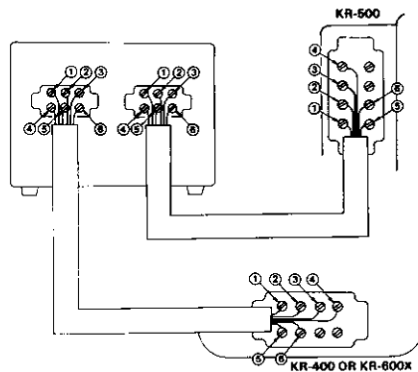

Fig 3
- 1.Connect 6 conductor cable between the terminals of AZIMUTH rotor unit and terminal for AZIMUTH of the control box, and each wire must be connected between same numbers of the terminals on control and rotor as shown in Figure 3.